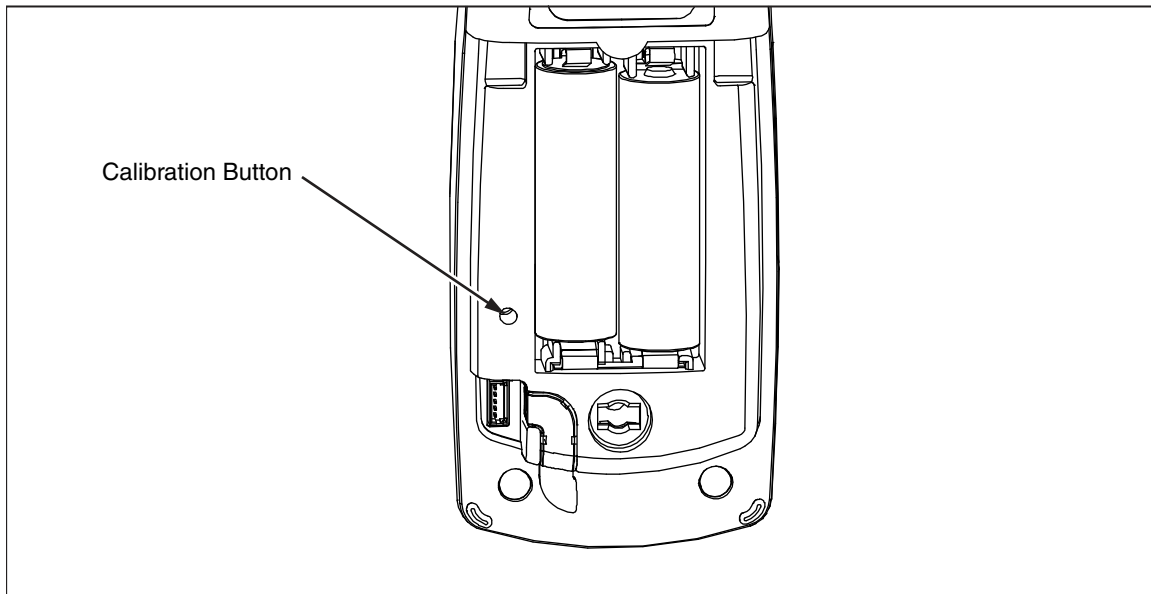

Figure 4. Accessing the Calibration Button
Use a small probe to press the calibration button once to enter the Meter's calibration mode. The calibration button is usually covered by the factory calibration seal. A second press of the button saves new calibration constants and exits calibration mode. See Figure 4.
4. Press the hidden calibration button with a probe to enter calibration mode. See Figure 4.
7. Press the hidden calibration button to exit calibration mode. See Figure 4.